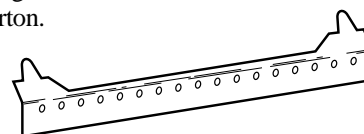

**Figure 12 - Installing Bottom Mounting Screw**
- Locate bottom mounting hole. This hole is near bottom on back panel of heater (see Figure 12).
- Insert bottom anchor screw through back panel into bottom anchor or drilled hole (see Figure 12).